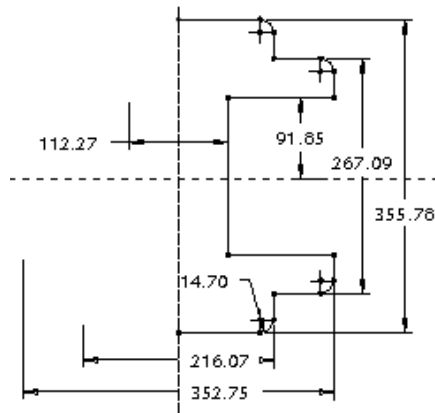

Figure 3-69 Sketch after dimensioning with constraints turned off for clarity
2. Dimension the sketch, as shown in Figure 3-69.